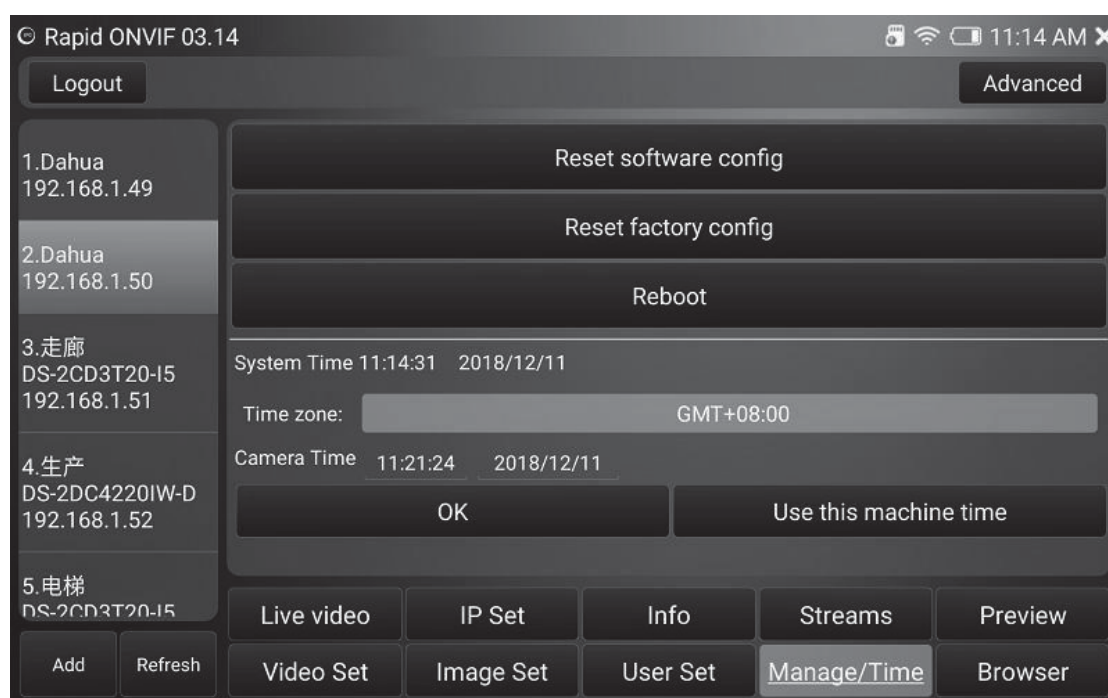

Figure 17
Touch the Rapid ONVIF icon to enter this App function, in the state of connecting to network, the instrument will scan ONVIF cameras in LAN automatically, after scanning for 1-2 seconds, Scanned ONVIF IP cameras will be listed on the left, for cameras do not require authentication, you can view the video image by touching the camera directly, for cameras that require authentication, input username and password to log in and view the image, as shown in Figure 17
2) Maintenance / time, touch the Manage / Time setting button to reboot camera, reset configuration or change Time zone, as shown in Figure17